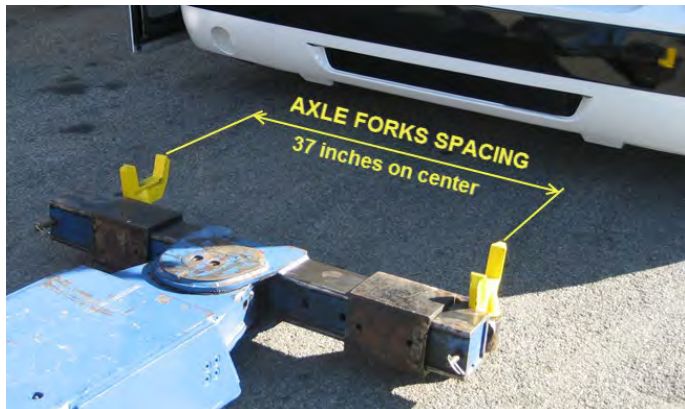

Figure 35
2. Place the axle forks on the tow bar fork holders (Figure 35). **Use the inner fork receptacles.**
4. Adjust fork holders position and hand guide the forks into each front tow eye (Figure 35).